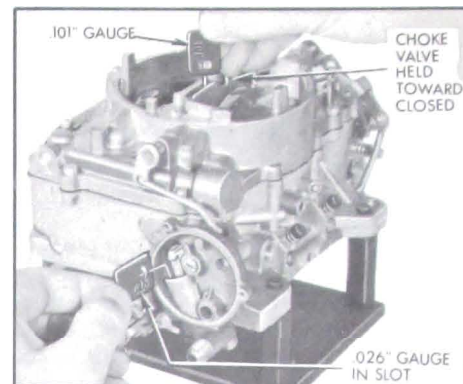

Figure 3-48—Choke Piston Adjustment
The secondary section does not have a choke valve. In order to prevent air entering the carburetor through the secondary side during the engine warm-up period, it is necessary to lock the secondary throttle valves in the closed position. This is accomplished by engagement of a lock-out arm with a locking tang on the secondary valve shaft lever. See Figure 3-48.
1. Adjust Choke Piston Position. Inside choke piston bore on left side, about 1/2 inch down, is a small slot. Insert 1/8 inch bent end of .026" wire gauge into upper end of slot; then close choke valve until piston stops against gauge. Check opening between upper edge of choke valve and inner wall of air horn using .101" Wire Gauge. See Figure 3-48. If adjustment is required, place Tool J-5197 on lower section of choke rod and bend as necessary.